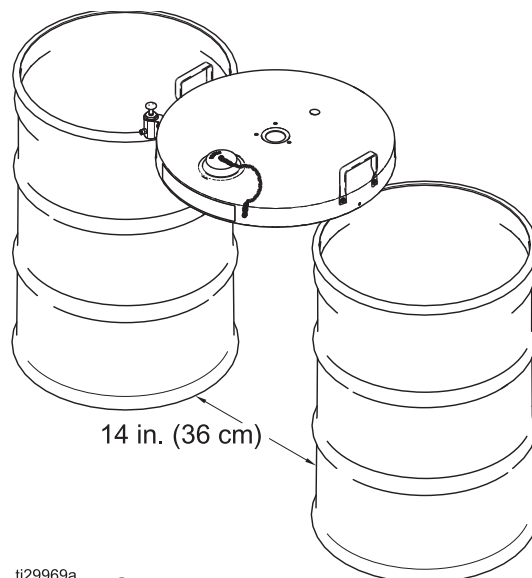

FIG. 2: Drum Cover on Barrels
1. Install the agitator shaft (33) by threading it into the stub (6) on the bottom of the back-gear housing (1). See FIG. 2.